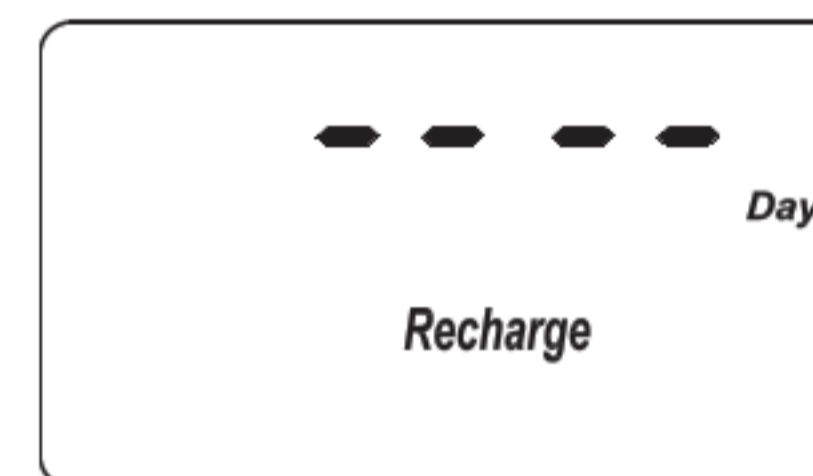

FIG. 40
1. Press and hold the PROGRAM button until the screen in Figure 37 is displayed. Once in this display, press the PROGRAM button four times and the display in Figure 40 is shown.